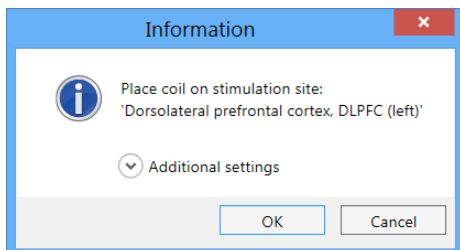

Fig. 38. “Information” message box.
29. Once stimulation button is pressed, the message box offering you to move the coil appears on the display (Fig. 38).
33. Once the coil position has been fixed, the anterior rim of the coil should be marked on the cap (see Fig.38). It will be required for second and next visits.
35. Press “OK” button in the message box (Fig. 38). The same action can be performed if you just press button on the coil.
11. Loosen the screw on holder arm and move the coil to the marked line on the cap (see Fig.38). Make sure that the anterior rim of the coil matches the marked line.